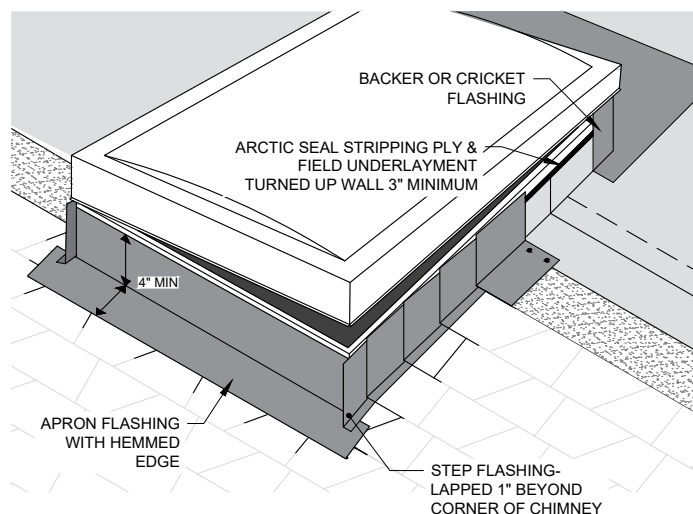

Figure 4 - Installation of Field Underlayment, SA Stripping Plies, and Metal Flashings at Roof Openings
*New/like new sheet metal flashing and accessories are required to match projected life cycle of roof. (See Figure 4)